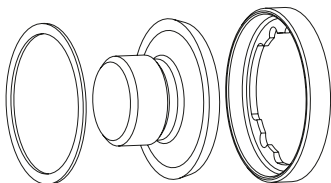

fig. 1
- 2.6.b.2.** Assemble the washer, drive-side bolt and selfextractor nut specific to INpower included in the packaging. The order of assembly is shown below, first the washer must be placed in the crank housing. (fig. 1)